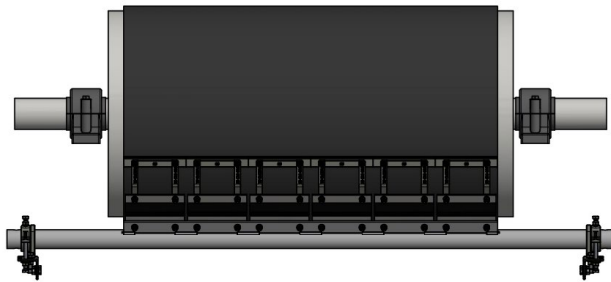

Fig. 3a
7. Centre the tips across the belt and tighten both adjuster arms to retain the cleaner in the centre position (refer figure 3a).